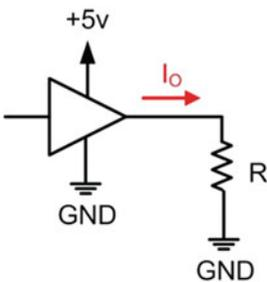

Fig. 3.39
3.4.2 For the pull-down driver configuration shown in Fig. 3.39, calculate the value of the pull-down resistor (R) in order to ensure that the output current does not exceed 20 mA.